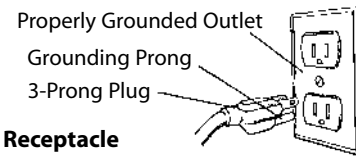

Figure 5 – 3-Prong Receptacle
- This tool is equipped with an approved 3-conductor cord rated at 300V and a 3-prong grounding type plug (See Figure 5) for your protection against shock hazards.
- Grounding plug should be plugged directly into a properly installed and grounded 3-prong grounding-type receptacle, as shown (Figure 5).